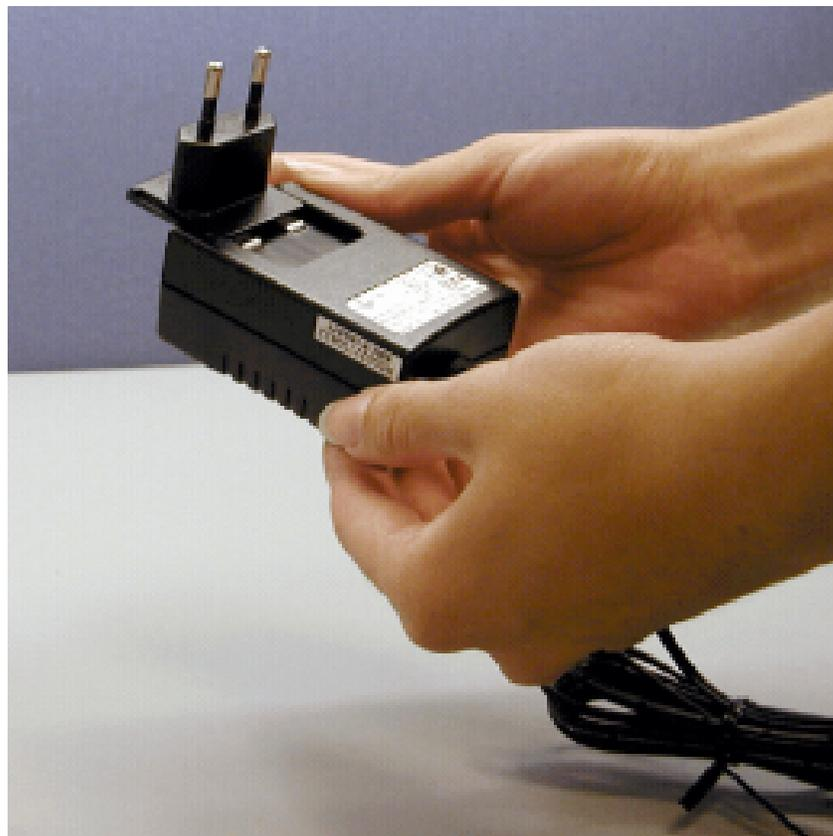

Figure 16. Inserting a New Plug Configuration
4. Push the new plug configuration down until it snaps into place, as indicated in Figure 16.